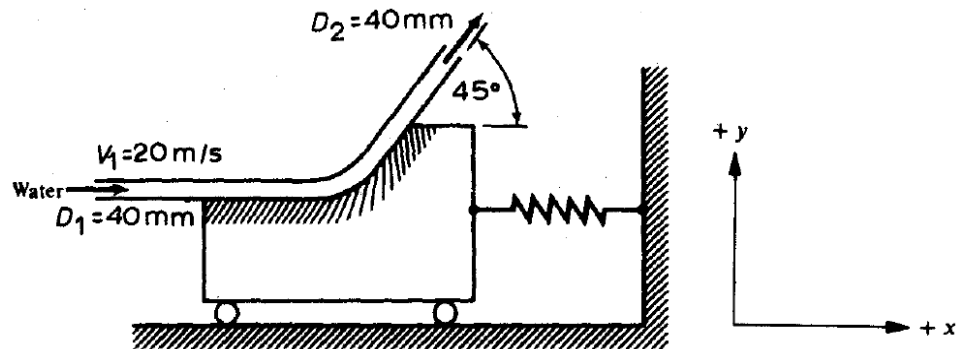

Figure 2
2. For the frictionless cart in Figure 2, compute (a) the  $x$ -component of the force on the wheels,  $F_x$ , caused by deflecting the water jet ( $\rho = 998 \text{ kg/m}^3$ ) and (b) the compression of the spring,  $\Delta x$ , if its stiffness is  $k = 1.6 \text{ kN/m}$ . For part (b), use the Hook's law,  $F_x = -k\Delta x$ . Assume steady state and circular cross sectional area for the water jet.